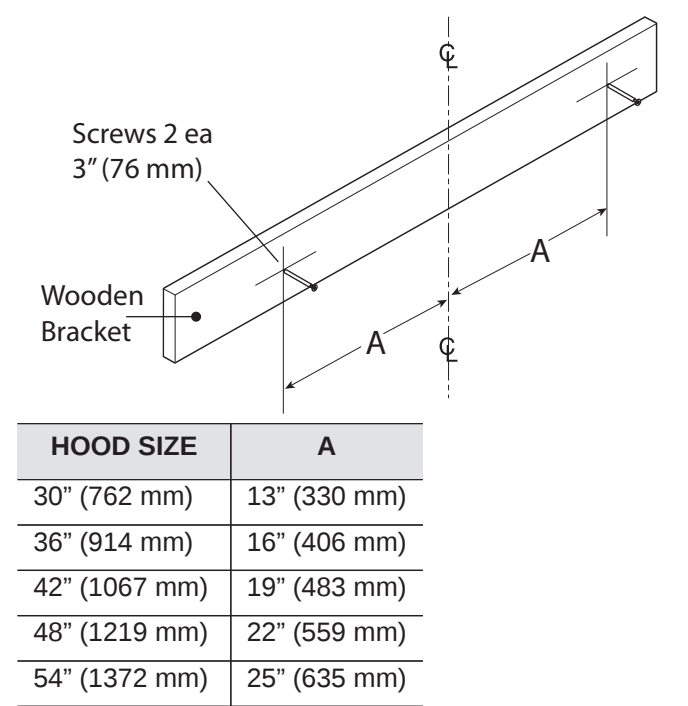

Figure 8: Hanging the Hood
8. On the wood bracket, mark the locations used to hang the hood according to *Figure 8*.